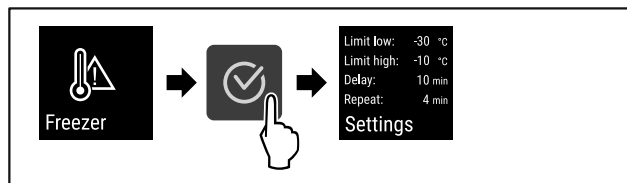

Fig. 102
- ▶ Complete steps (see Fig. 102) .